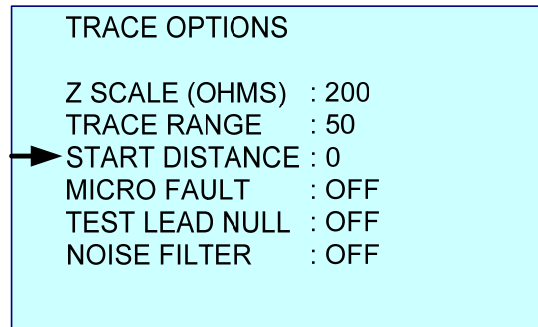

Figure 3-53
1. Press the  menu key. See figure 3-53